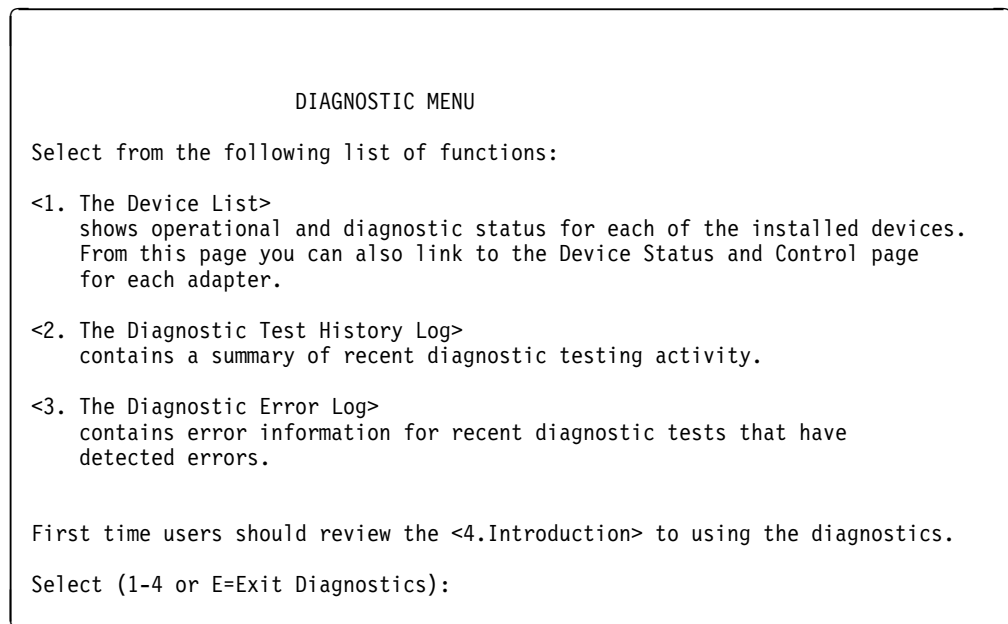

Figure 6-1. Diagnostics Main Menu
2. The Diagnostic Menu appears (Figure 6-1 ). To make your selection, type in the number of your choice and press **Enter**.